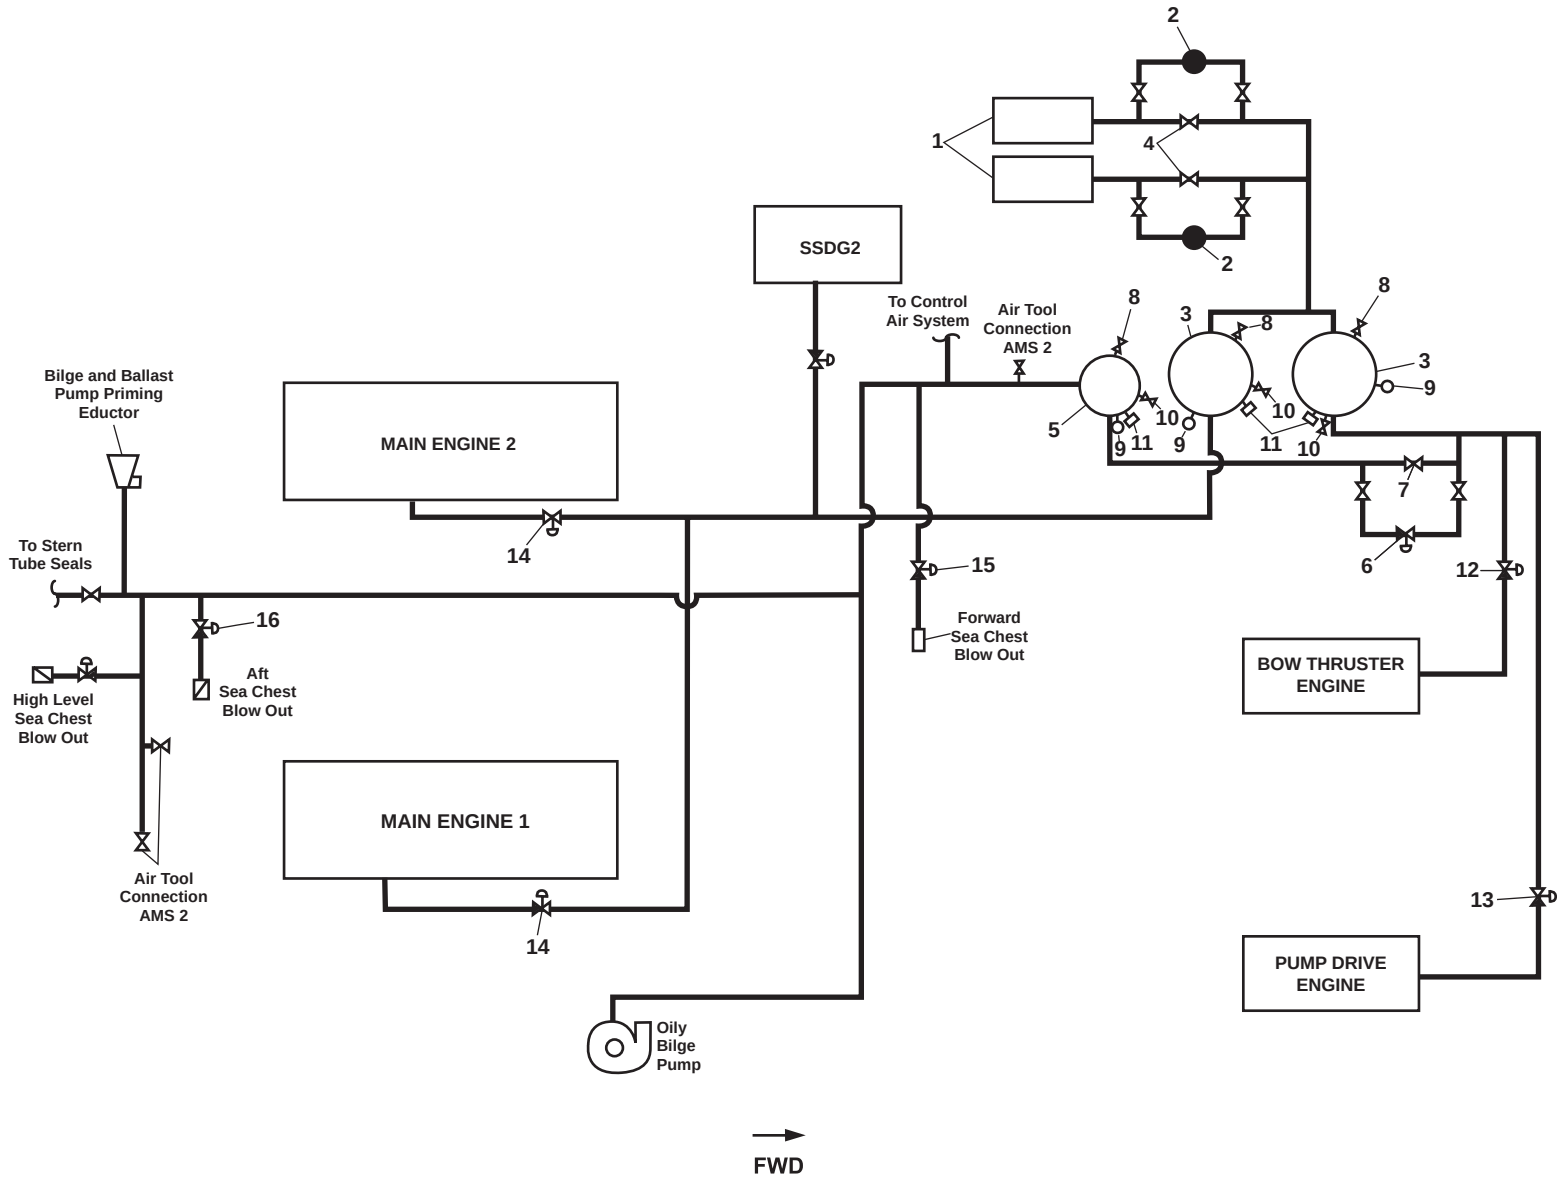

Figure 1. Compressed Air System Simplified Schematic
After leaving the compressors (figure 1, item 1), the compressed air passes through air dryers (figure 1, item 2). These air dryers remove moisture from the air before the air reaches the starting air receivers (figure 1, item 3). Removal of moisture from the compressed air is necessary to prevent the accumulation of water in the receivers. This accumulated water can corrode the interior of the receivers, and can also travel downstream in the compressed air system damaging components further down the line. Each dryer is equipped with a bypass valve (figure 1, item 4) to permit air to bypass the dryer in the event of a dryer failure.
All air discharged from the air compressors (figure 1, item 1) arrives first at the starting air receivers (figure 1, item 3). Here, the air is stored at 250 PSI (17.2 bar) to ensure that an adequate supply of compressed air is on hand for use in starting the main engines, the bow thruster engine, the pump drive engine, and the engine for SSDG 2. SSDG 1 is equipped with an electric starter, and does not require compressed air.
Compressed air for ship's service use (air tools, ship's whistle, sea chest blowdowns, etc.) is stored in the ship's service air receiver (figure 1, item 5). This receiver is supplied from the starting air receivers (figure 1, item 3) through a regulator (figure 1, item 6). This regulator reduces the starting air pressure to 125 PSI (8.6 bar) before the air is permitted to enter the ship's service air receiver. A bypass valve (figure 1, item 7) permits manual filling of the ship's service air receiver in the event of a regulator failure.
All three receivers (figure 1, items 3 and 5) are equipped with relief valves (figure 1, item 8), local pressure gauges (figure 1, item 9), manual drain valves (figure 1, item 10), and automatic drain valves (figure 1, item 11). The relief valves prevent overpressurization of the receivers, which could result in catastrophic failure. The relief valve for the starting air system is set at 275 PSI (19.0 bar) and the relief for the ship's service system is set for 137.5 PSI (9.5 bar). The manual drains permit manual draining of water from the receivers. They also permit the system to be drained when receiver or compressed air system maintenance is required. The automatic drains open on a preset schedule, keeping the receivers drained under normal operating conditions.
Although the starting air is stored at 250 PSI (17.2 bar), this pressure is too high for the engines' starters to accommodate without damage. Therefore, each engine's starting air piping is fitted with a regulator. The regulator for the bow thruster engine (figure 1, item 12) and the pump drive engine (figure 1, item 13) each reduces the starting air pressure to 125 PSI (8.6 bar). The regulators (figure 1, item 14) for the main engines each reduce the engines' starting air pressure to 200 PSI (13.8 bar).
Additional regulators are provided for the forward (figure 1, item 15) aft (figure 1, item 16) and high level (figure 1, item 17) sea chest blowouts. These reducing valves reduce the ship's service air to 25 PSI (1.7 bar) to prevent damage to the sea chests.